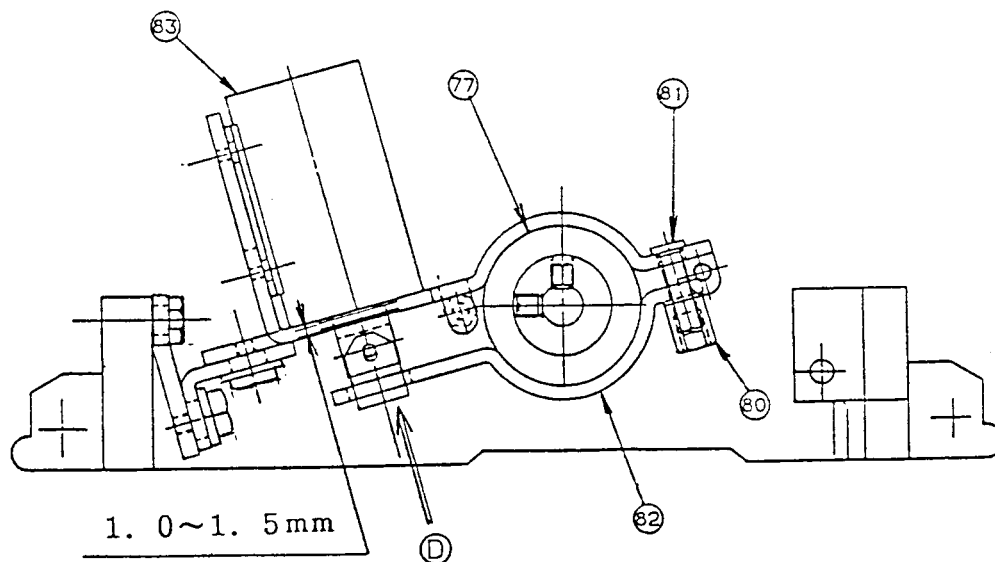

Fig.16
2. To adjust the rapid feed brake solenoid plate(right)(Fig.16)
Loosen adjusting nut(80) and adjusting screw(81) and adjust screw(81) so that clearance between bottom end of solenoid(83) and E-ring on solenoid plunger is 1.0-1.5mm when brake solenoid plate(82) is pressed against the rapid feed brake drum(77) by pushing the solenoid plunger in direction(D) as shown in Fig.16.